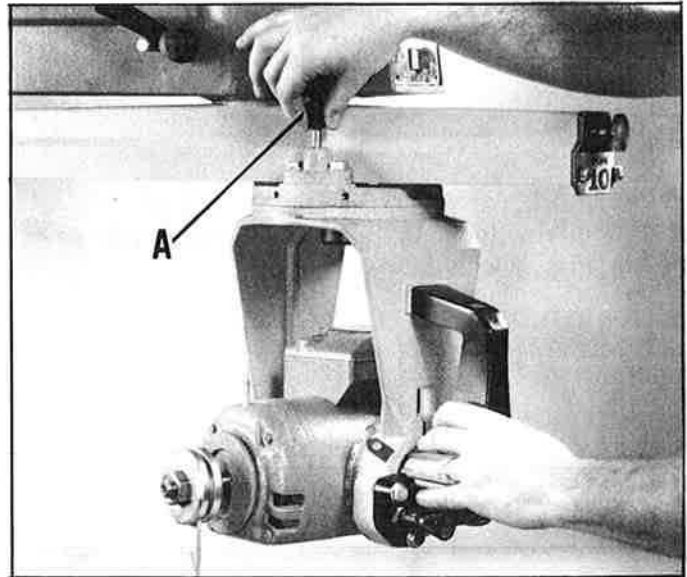

Fig. 11
2. Loosen "yoke swivel lock", pull out "swivel index" (A), as shown in Fig. 11, and place cuttinghead in the rip position.